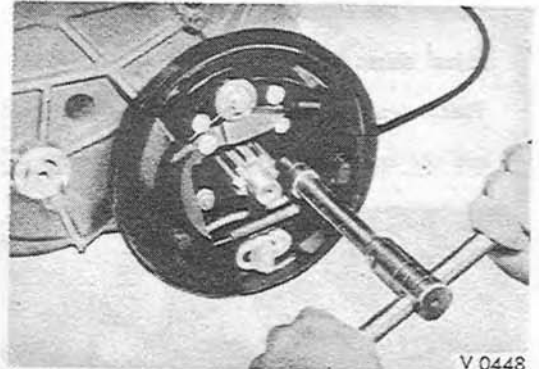

Fig. 3-24. Removing the center brake back plate from the speedometer housing.
- Remove the four hex-head cap bolts and spring washers that secure the brake plate complete to the speedometer housing. (Fig. 3-24)